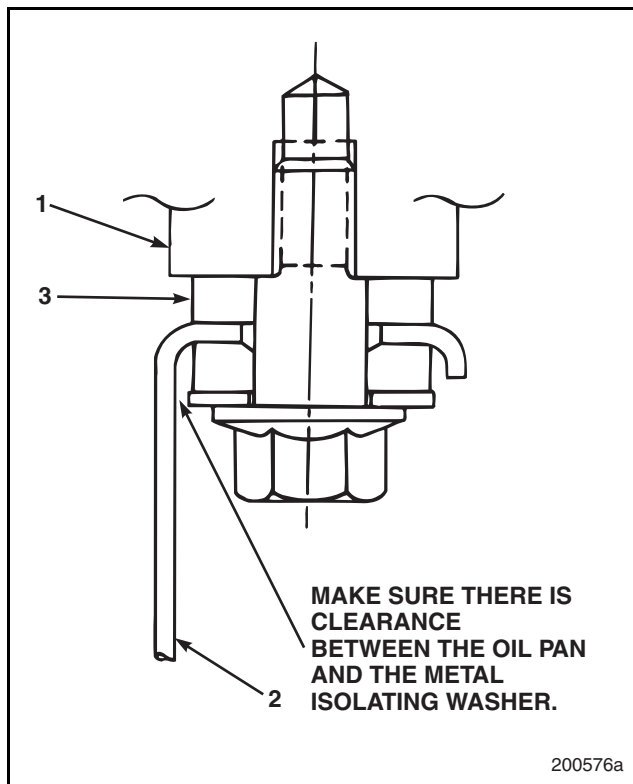

Figure 6-57 — Checking Clearance
6. When installing oil pan onto the engine, center the pan before tightening fasteners so that the edges of the metal isolator washers do not touch the pan. Refer to Figure 6-57.